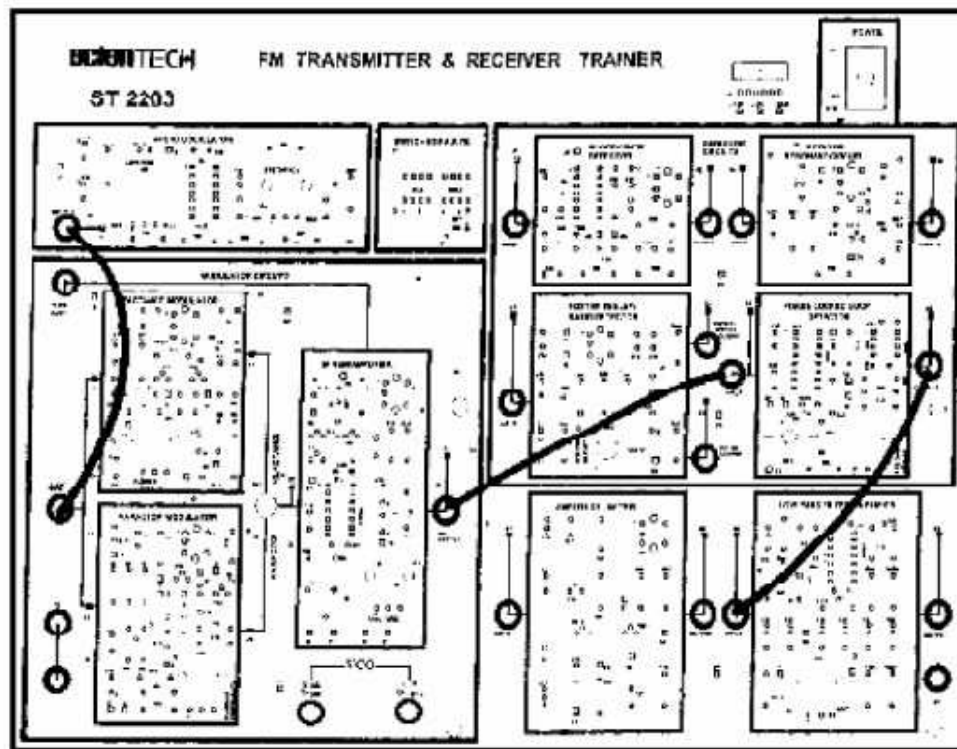

Figure 5: Connections for FM Demodulation using PLL
2. Make the connections shown in figure 5.